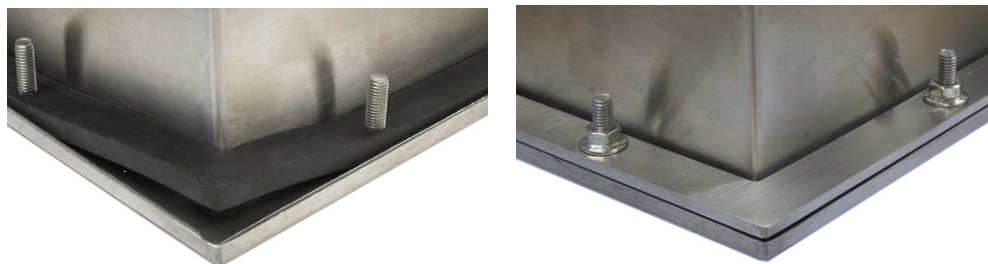

Figure 2-6: Gasket on Enclosure (left) and Backing Plate Installed (right)
2. Loosen and remove the eight, 8 mm shoulder nuts holding the backing plate to the enclosure. The gasket should remain in position on the terminal. Figure 2-6 shows two images of the enclosure, one with the backing plate removed to show the gasket, the other with the backing plate installed.